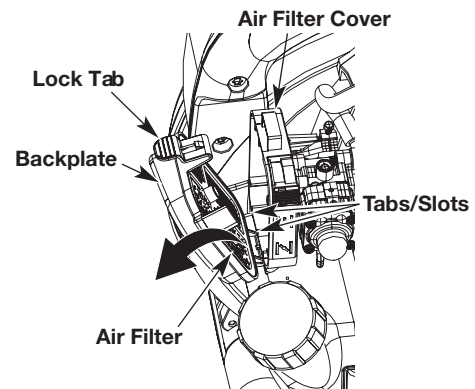

Fig. 12
1. Open the air filter cover: press in the lock tab and swing the air filter cover to the right (Fig. 12).
2. Remove the air filter (Fig. 12).
6. Reinstall the air filter (Fig. 12).